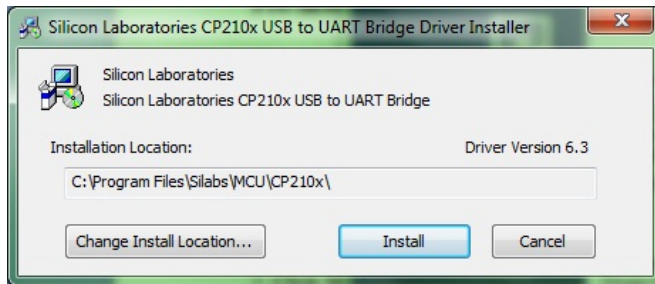

Figure 31 - USB Common Driver Install
7. Click **Install** to continue. Once the installation is complete, the **Installation Successful** message displays (see Figure 31).